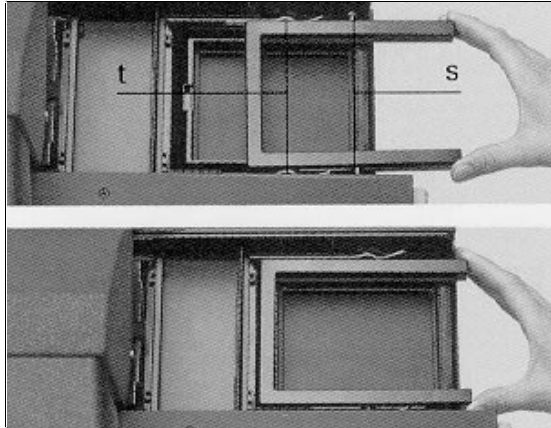

Figure 2-32. U-Shaped Adapter, Pins, and Springs
- a. If using a Polaroid Model 545, 550 or 405 Film Holder, insert the U-shaped adapter. Orient the adapter as shown (figure 2-32). Slide it all the way into the head, so the pins (s) fit under the springs (t).